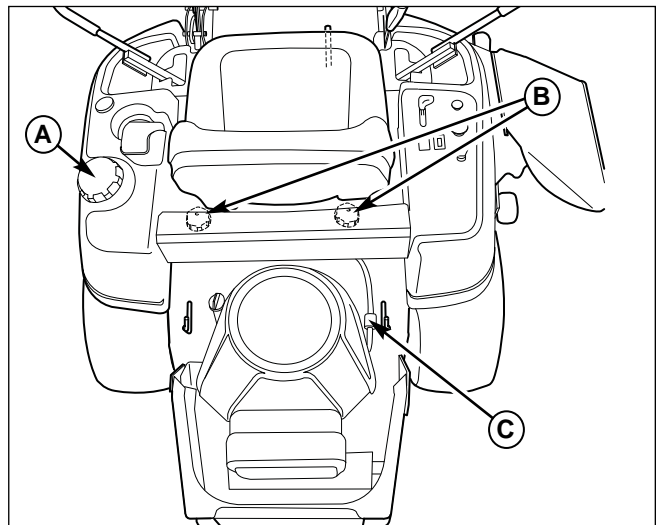

Figure 31. Maintenance
2. Remove the fuel cap (see A, Figure 31).
3. Using pliers, open and slide the hose clamps from the fuel filter (C, Figure 31).